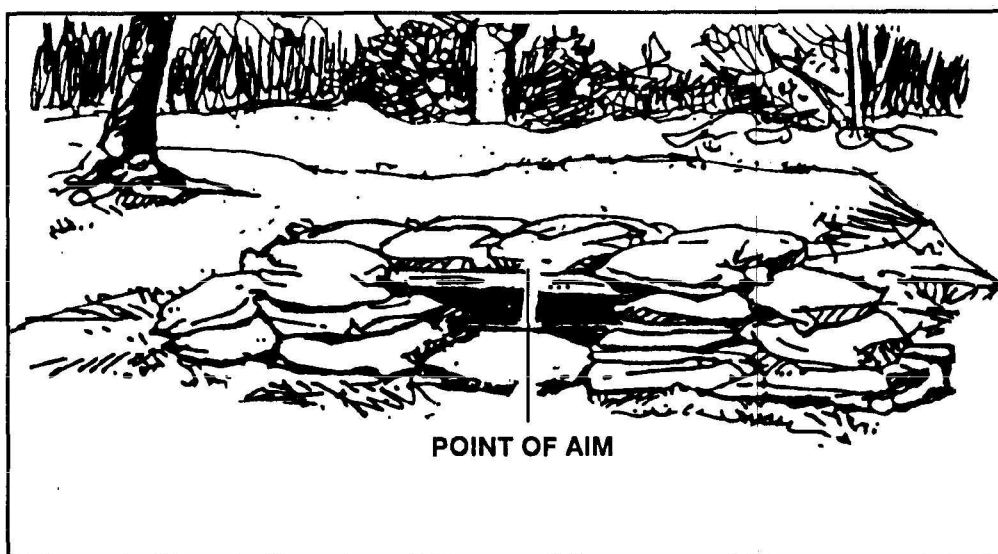

Figure 8-3. Point of aim for sandbagged emplacement.
(3) Sandbagged emplacements present a different problem (see Figure 8-3). Because sandbags absorb much of the energy from a shaped-charge, the rounds should be aimed at the center of the firing aperture. Even if the round misses the aperture, the bunker wall area near it is usually easiest to penetrate.